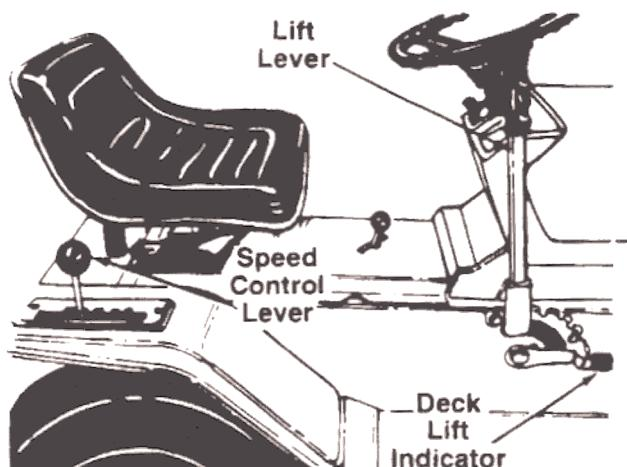

FIGURE 10.
The speed control lever allows you to regulate the ground speed of the lawn tractor. See figure 10. To select the ground speed, depress clutch pedal. Push speed control lever outward and move backward to slow lawn tractor, move forward to increase speed. When desired speed has been obtained, release lever in that position. Whenever clutch is engaged, unit will automatically go to the pre-set speed.
3. Place the lift lever in the DISENGAGED position. See figure 10.
NOTE: The lift lever **must** be in the disengaged position when starting the engine, when shifting into reverse and if the operator leaves the seat. See figure 10.
The deck lift indicator marks the position being used for the lift lever. Select the lift lever position desired, press the indicator lever outward, move it to the position immediately below the lift lever and release the indicator lever. See figure 10.